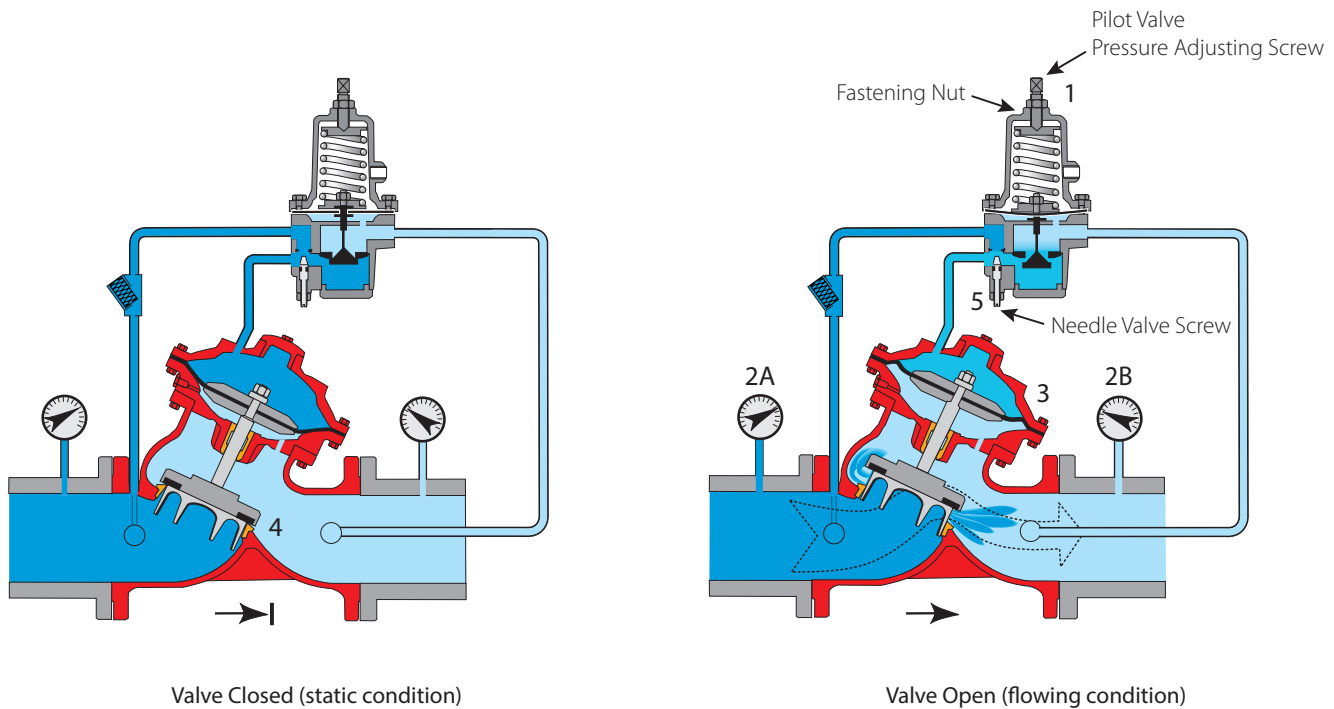

Figure 2: Operation Drawing
7. Free the tension between the pressure adjusting screw on the pilot valve (Figure 2, call out 1) and the fastening nut by turning the fastening nut counterclockwise.
10. By turning the needle valve screw (see Figure 2, call out 5) on the pilot valve bottom, adjust the valve response. Turn clockwise to decrease the closing speed of the main valve or counterclockwise to increase the closing speed of the main valve.
Upstream pressure gauge (Figure 2, call out 2a) should reflect the upstream pressure supplied to the valve.
Downstream pressure gauge (Figure 2, call out 2b) should be according to the system design criteria.
The fastening nut of the pilot valve pressure adjusting screw (Figure 2, call out 1), should be fastened tightly.